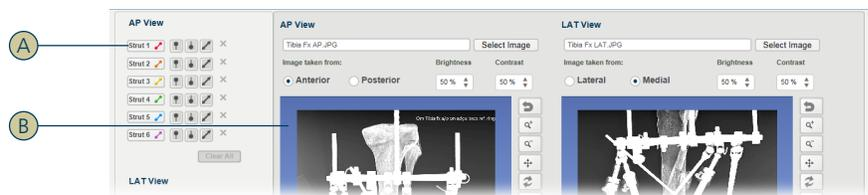

Figure 75 – PFM—Strut selection
1. Click the corresponding strut selection button on the left side of the view (cf. [A] in figure 75). The mouse cursor indicates the selected strut (cf. [B] in figure 75).
Next to each strut selection button (cf. [A] in figure 75 on page 67), you find the following options to include or exclude specific components in the frame matching calculation:
To display a strut’s hinges in the zoomed views, click the corresponding strut selection button on the left side of the view (cf. [A] in figure 75 on page 67). Only the activated strut can be manipulated in the close-up assist windows.